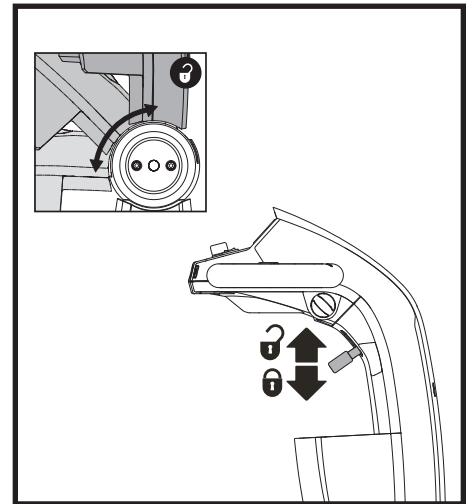

Figure 13. Tiller Adjustment Lever
TILLER ANGLE ADJUSTMENT (see figure 13)
1. Lift the tiller adjustment lever. See figure 13.